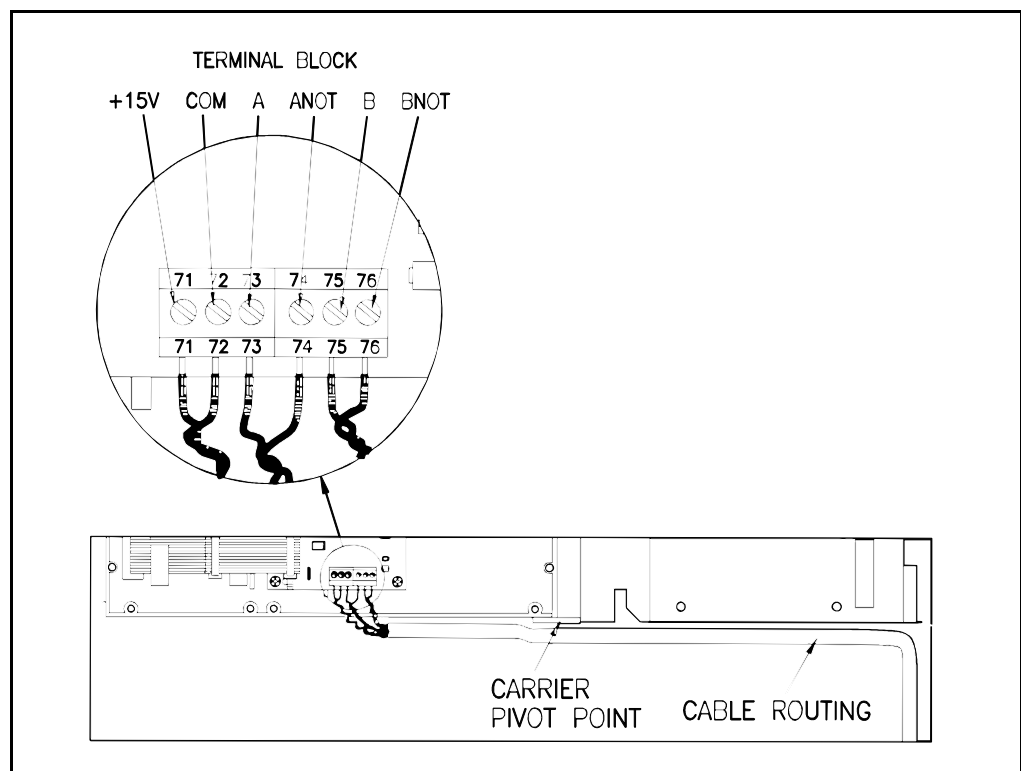

Figure 2.5 – Wiring the Pulse Encoder Interface Board
Refer to figure 2.5 when making wiring connections.
- Step 6. Refer to figure 2.5. Connect each lead to the corresponding position on the Pulse Encoder Interface board's terminal strip. Tighten the terminal strip connectors to no more than 7 in-lbs (.79 Nm).